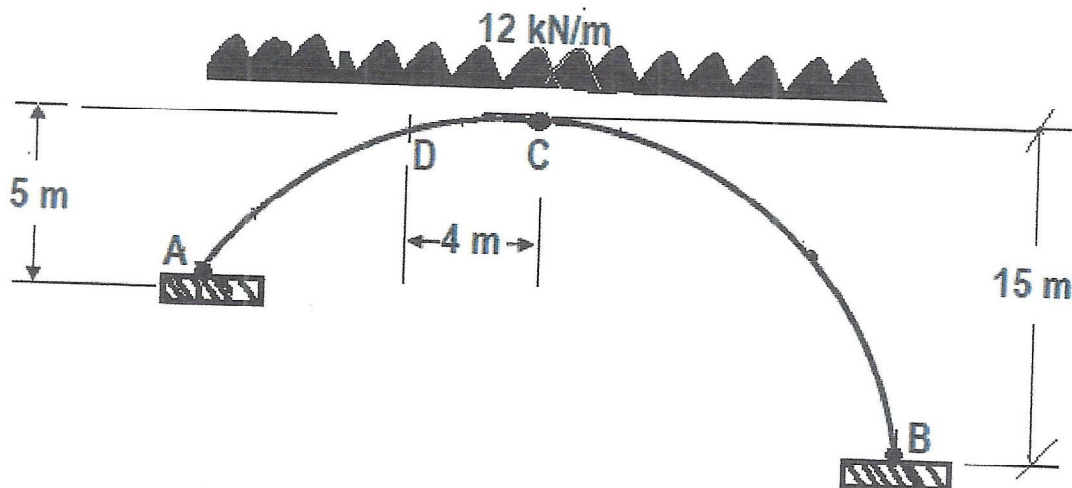

Figure Q3
- A **circular** arch ABCD (Radius =  $20\text{ m}$ ) is shown in **Figure Q3** together with all dimensions. Find the support reactions at the abutments/supports A and B, and the bending moments at D when the arch supports a uniformly, horizontally distributed load of intensity  $12\text{ kN/m}$  on the entire span. Also draw the bending moment diagram for the arch. (16 marks)